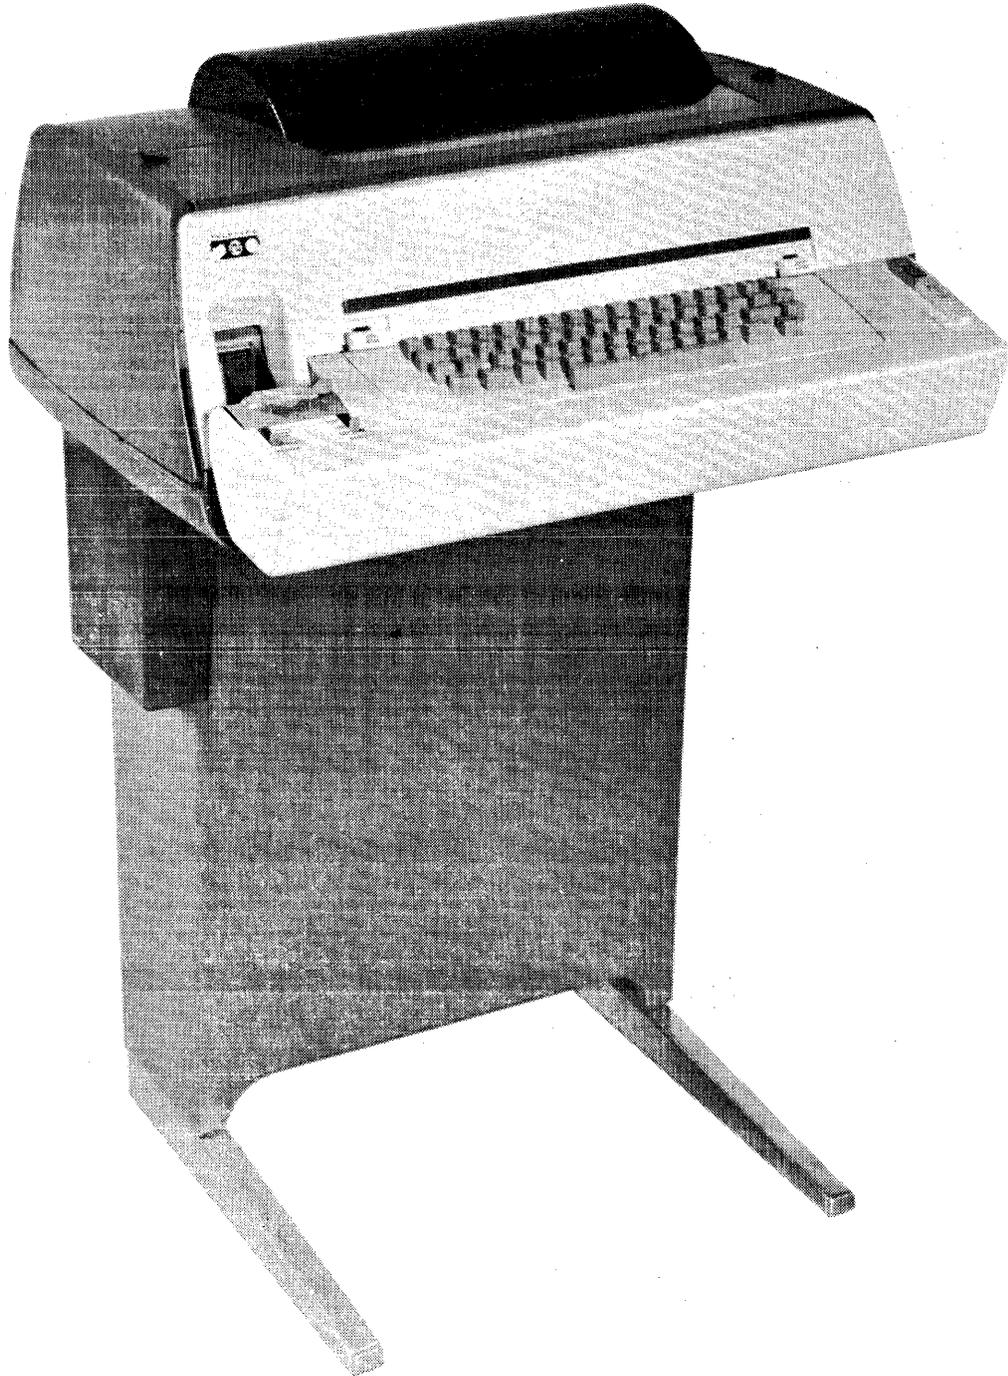
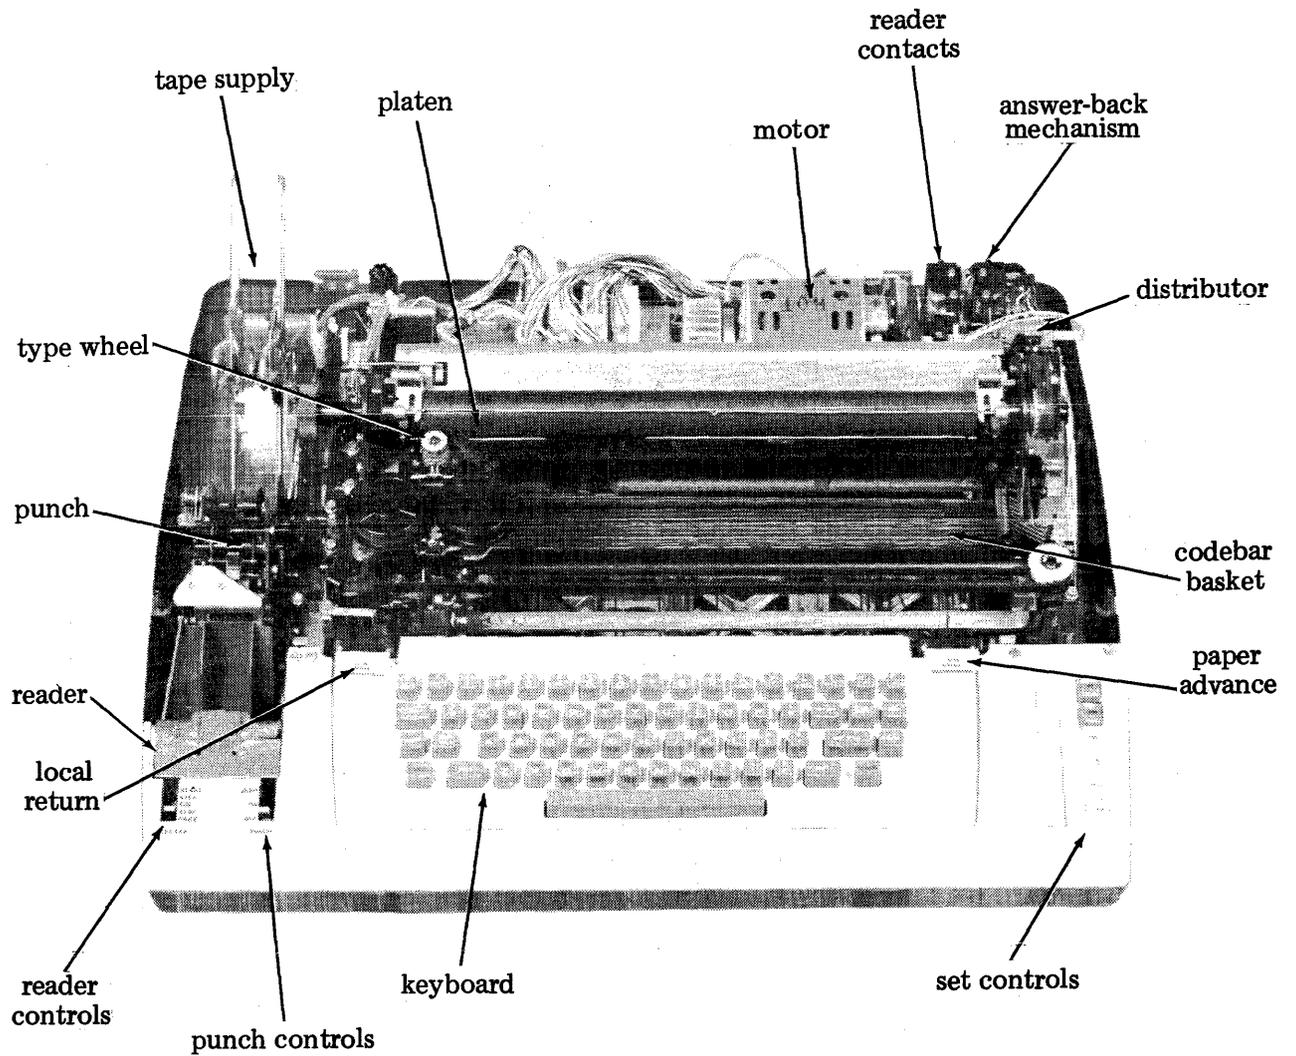
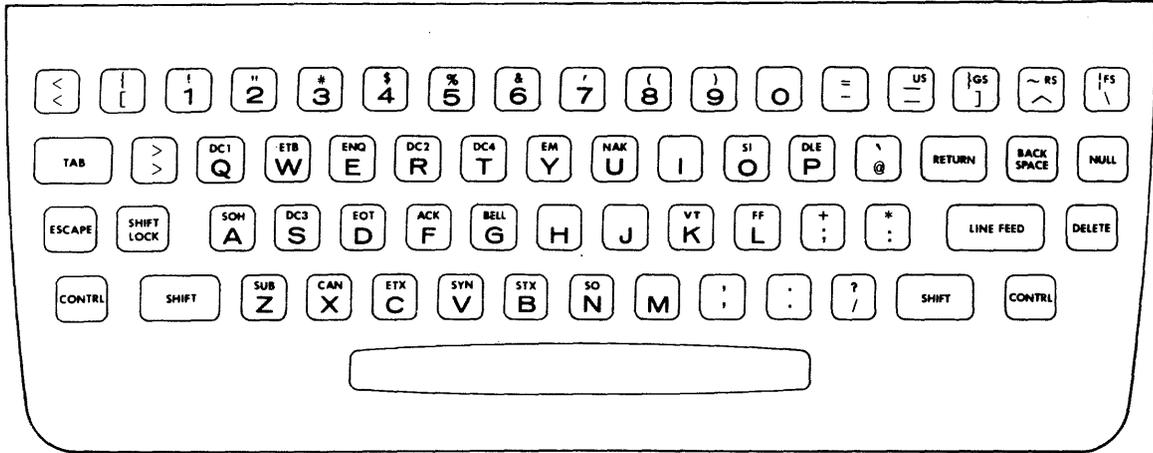

Figure 1 - 38 Automatic Send-Receive (ASR) Set
Figure 2 - 38 Automatic Send-Receive (ASR) Set With Cover Removed
Figure 5 - AAW Keyboard Arrangement
1.01 This section provides a general description and operation for the 38 Automatic Send-Receive (ASR) Teletypewriter Set (Figure 1). It is reissued to include information on APL (A Programming Language) Sets and to provide information on Model 38 optional features. The information includes a description of the option and any required adjustments, lubrication, and disassembly and reassembly. General description and operation information for the 38 Keyboard Send-Receive (KSR) and the 38 Receive-Only (RO) Teletypewriter Sets are contained in Section 574-401-100TC. (Parts information is not included but may be found in the appropriate component section.) Marginal arrows ordinarily used to indicate changes or additions have not been used.
1.04 The Model 38 ASR Set is composed of an electromechanical printer, keyboard, paper tape punch, and paper tape reader (Figure 2). Station identification is provided by an answer-back mechanism that is an integral part of the distributor mechanism. This equipment provides terminal facilities for exchanging recorded communication via appropriate transmission facilities, including telegraph lines, telephone networks, and radio channels.
1.07 The cabinet and console may be mounted either on a standard pedestal (Figure 1) or on the customer-provided table or counter. The color of the cabinet, console, and pedestal are charcoal gray and ivory. The set operates at a low noise level that is comfortable in a normal office environment.
2.01 The ASR set is comprised of a keyboard, typing unit, reperforator, and reader (Figures 2, 3, and 4) designed into a cabinet and console as a complete unit. The cabinet and console are mounted on a pedestal, that contains the electrical service unit and a chad box, that attaches to the left side of the pedestal (Figure 1). The cabinet and console can be mounted on an office desk, but the customer must provide for chad collection and a place to mount the electrical service unit.
2.06 The keyboard has 4 rows similar to the standard typewriter. Figure 4 shows a typical arrangement. This keyboard has a repeatable key feature that permits any key that is depressed beyond the normal stop position to continuously repeat that key until it is released. The keyboard console has a manual local carriage return button on the left, and a manual paper advance button on the right, refer to Figure 2. Figures 5, 6, and 7 show the three typical keyboard arrangements and their associated type wheel character sets for Model 38 equipment.